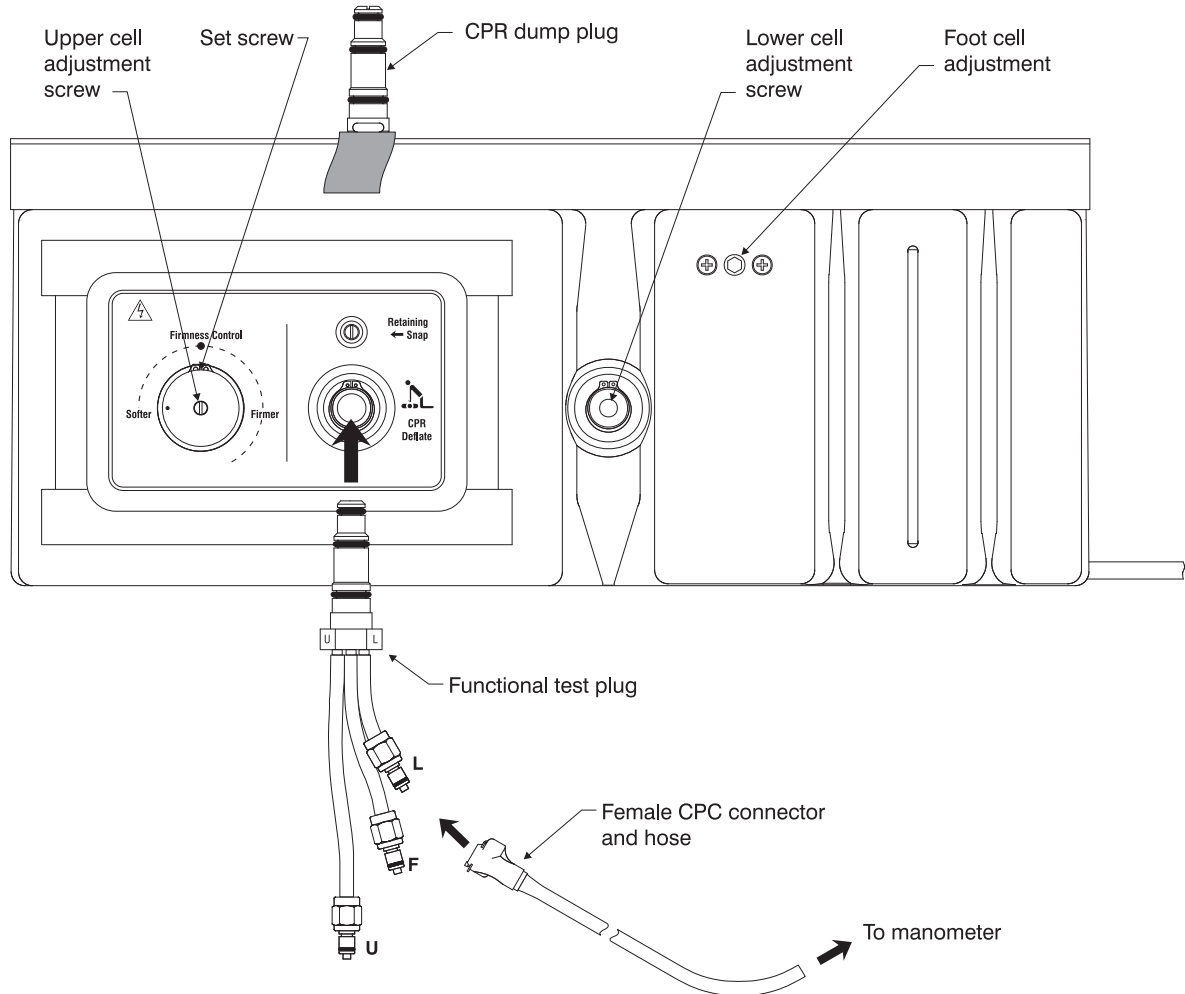

Figure 20—Adjustment points for calibration
1. Connect the manometer to the shortest hose connector on the test pin to test the lower cell (fig. 20, p. 28).
4. If the pressure for the foot cell is too high, locate the foot cell and adjustment hole located on the front of panel (fig. 20). Using a 1/8" allen wrench, turn the adjustment clockwise to reduce the pressure. This adjustment is sensitive—a small turn is recommended. After making the adjustment, recheck the lower cell to make sure it is still within range.